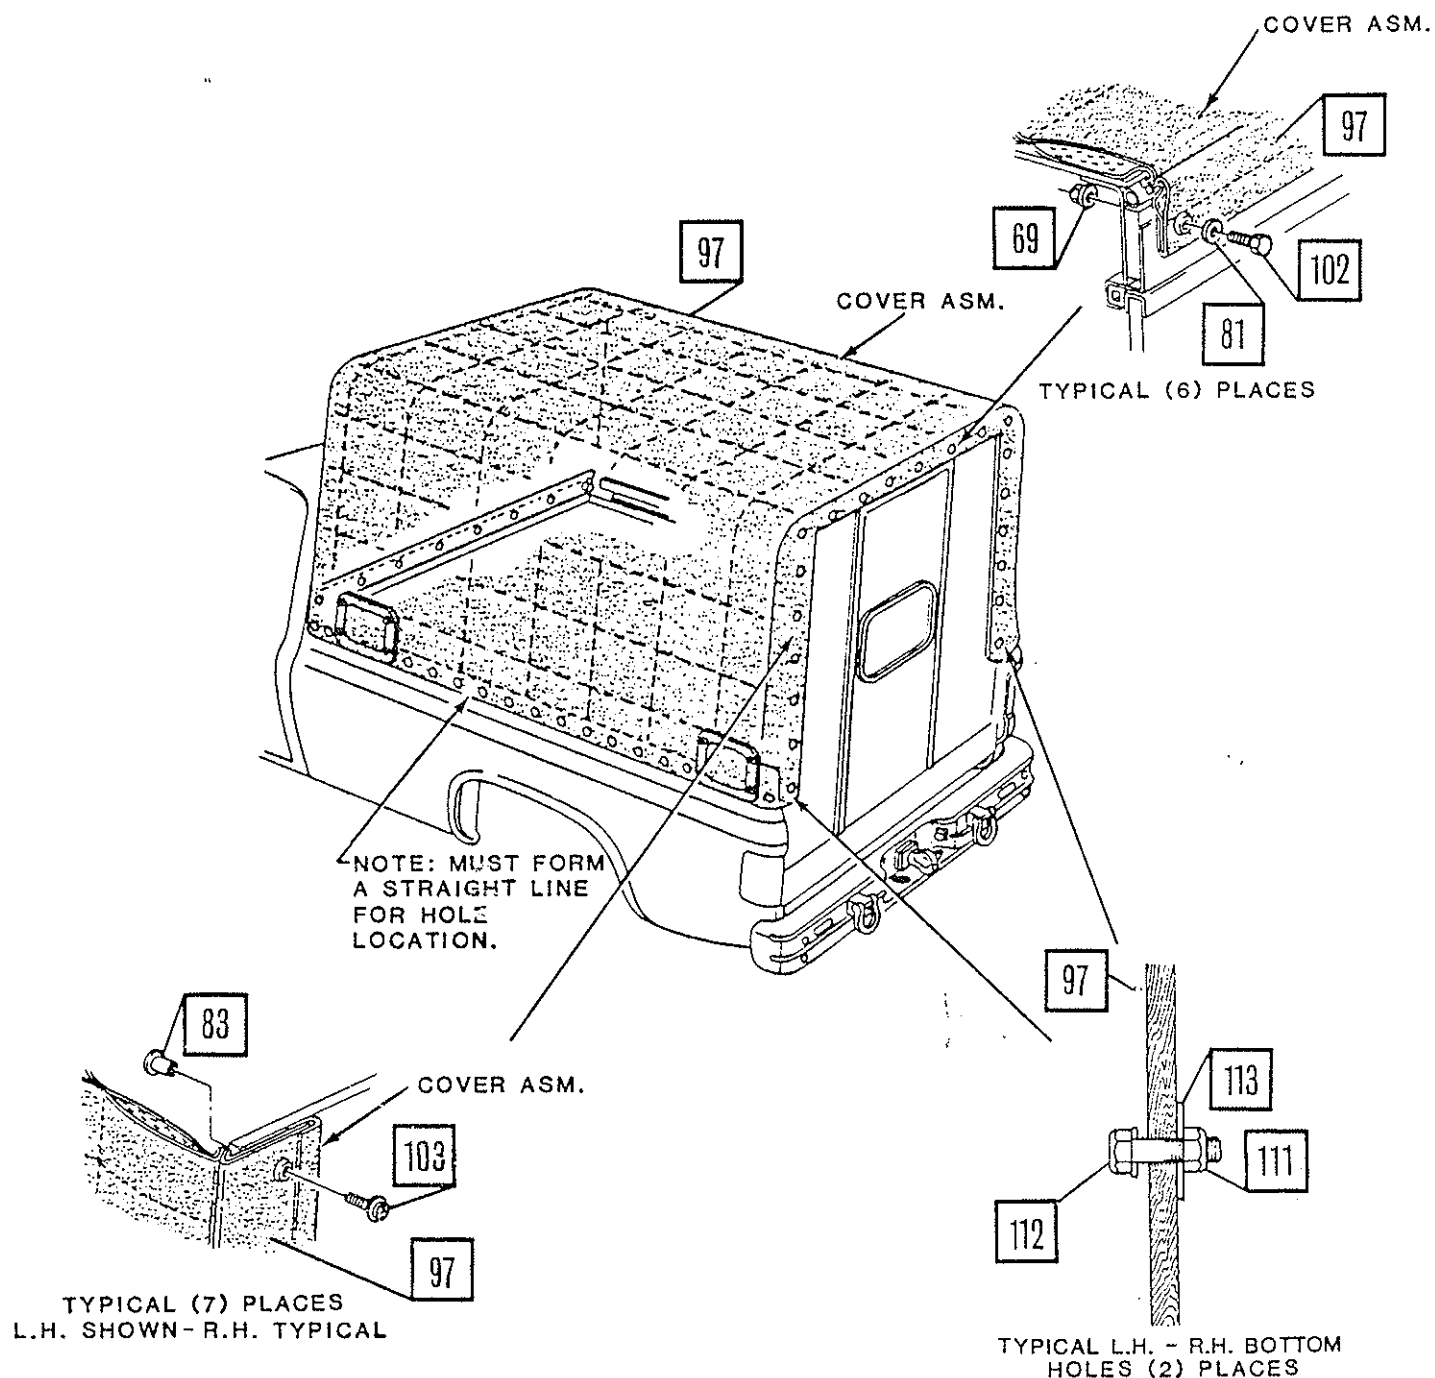

Figure 28.
90. Secure cover above door with 6 nuts, bolts and washers. Tighten to 50-65 lb.-in. (6.0-8.0 Nm). Install 2 screws and "T" nuts in outer panels. Tighten to 25-31 lb.-in. (2.8-3.5 Nm) (Figure 28.).
91. Using cover as a template, center punch and drill 13/32 inch holes down sides of rear plywood, starting at top and working down (Figure 28.).
92. Install "T" nuts into drilled holes and secure into place with bolts (Figure 28.). Tighten to 25-31 lb.-in. (2.8-3.5 Nm).
94. Using cargo cover as a template, center punch and drill 15/32 inch holes along right and left side of cargo box, keeping cover in a straight line. (Figure 28.).